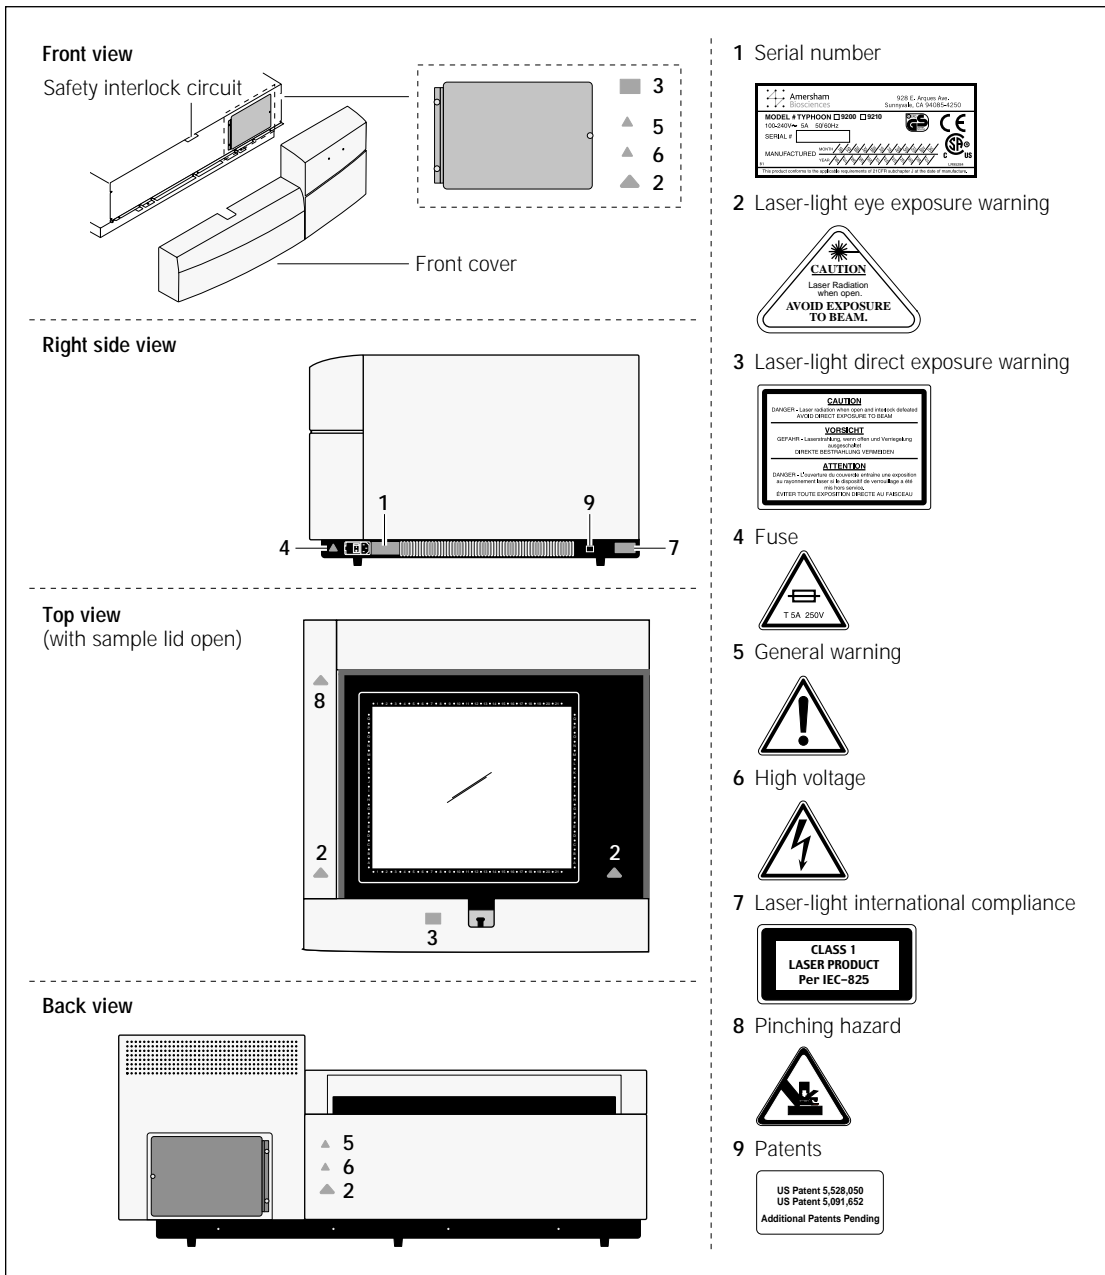
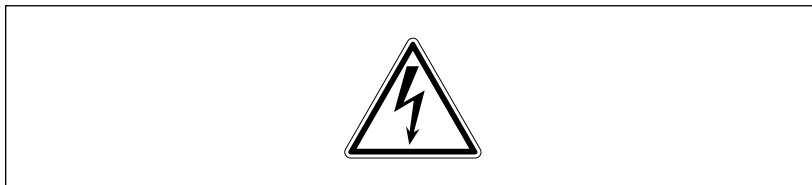

Figure 2-2. Location of important labels on the Typhoon instrument.
Figure 2-6. High-voltage warning label.
When you call Technical Support, you will be asked for the serial number of your instrument. The serial number of the Typhoon instrument is shown in the Scanner Information area of the Scanner Control window (figure 2-1a) and on the serial number certification label (figure 2-1b). The serial number certification label also displays the model number of the instrument and the Center for Devices and Radiological Health (CDRH) compliance information. The label is located on the lower right side of the Typhoon instrument near the plug. Figure 2-2 shows the locations of all the labels on the Typhoon instrument.
Figure 2-6 displays the high-voltage warning label on the Typhoon instrument. See figure 2-2 for the location of the label.
Figure 2-6 displays the high-voltage warning label on the blue laser module. See figure 2-2 for the location of the label.
The safety interlocks (figure 2-2) in the Typhoon instrument are designed to prevent you from being exposed to the laser beams. If you open the sample lid while the scanner is in operation, the laser shutter closes and blocks the light from the lasers.
The labels shown in figure 2-8 warn of exposure to laser light. The locations of the labels are shown in figures 2-2 and 2-3.
- Do not remove the front cover (figure 2-2) of the Typhoon instrument except to install or remove optical (emission) filters. There are no other user-serviceable components inside, and you can be exposed to laser light.
- Do not defeat the safety interlocks of the sample lid (figure 2-2). The safety interlocks are designed to protect you from exposure to the laser light. If you lift the sample lid during a scan, the safety interlocks signal the laser shutters to close and block the light from the lasers.